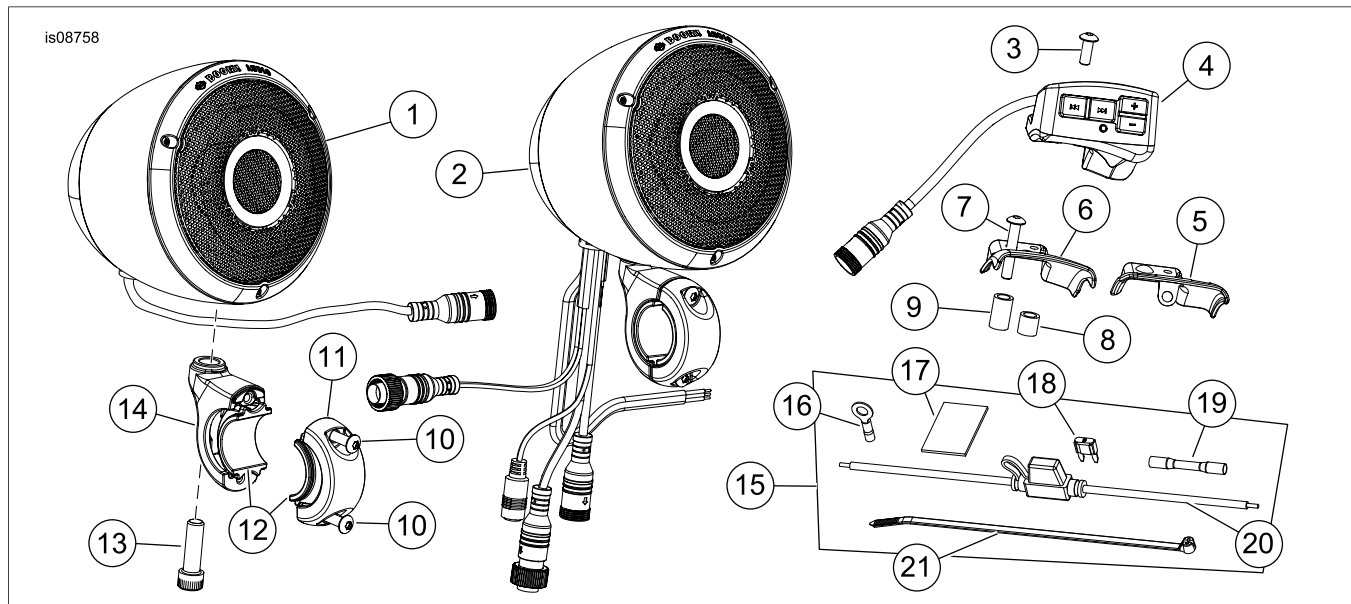

Figure 7. Service Parts, Handlebar-Mounted Speaker Kits
- See Figure 7. The speaker pod (2) with **five** electrical connectors mounts on the **brake** side of the handlebar. The speaker pod (1) with **one** electrical connector (1) mounts on the **clutch** side.
1. See Figure 7. Place speakers in locations determined earlier. Some models may require relocating of the clutch cable.